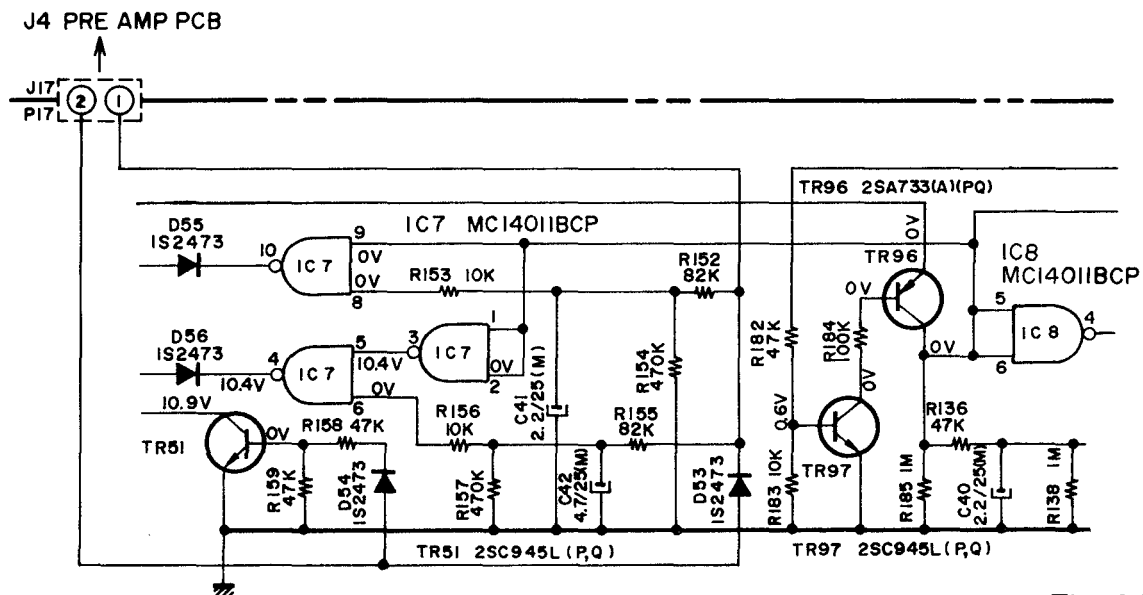

Fig. 26
g) Timer Starting Circuit (Refer to Fig. 26)